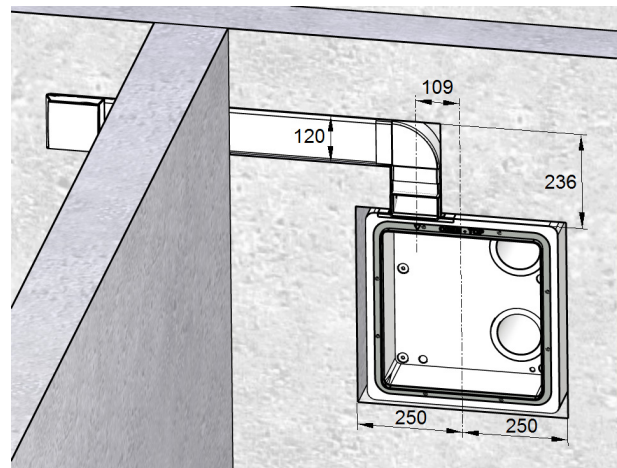

Fig. 9: Flat ductwork layout example, dimensions in millimetres
- ▶ Use the wall chaser to chase out channels for the rest of the flat ductwork as shown in your plans. Fig. 9 contains a sample layout for a flat duct. You will find other examples with two flat ducts in Fig. 28 and Fig. 29 on page 19.